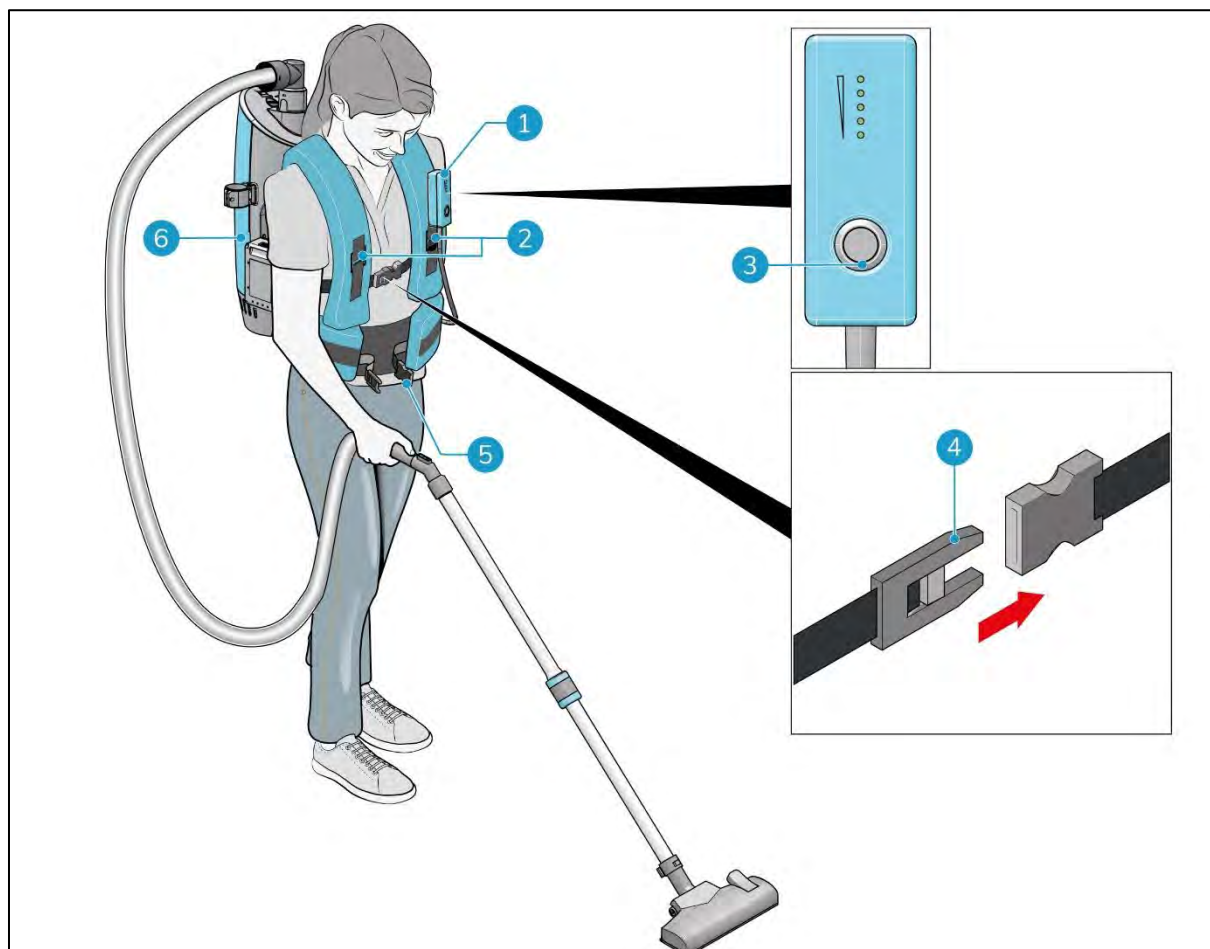

Figure 15
5. Place the i-move 2.5B® on your back (Figure 15, pos 6).
6. Close the waistband, adjust it until it fits comfortably (Figure 15, pos 5).
7. Tighten the 2 buckles until they fit comfortably (Figure 15, pos 2).
8. Fasten the buckle at the front (Figure 15, pos 4).
9. Clip the remote control on the waistband or on one of the buckle loops (Figure 15, pos 1).
10. Press the ON/OFF button (Figure 15, pos 3) to turn on the i-move 2.5B.
1. Press the ON/OFF switch (Figure 15, pos 3) to turn off the i-move 2.5B®.
2. Undo the buckle at the front (Figure 15, pos 4).
3. Undo the two buckles (Figure 15, pos 2).
4. Open the waistband (Figure 15, pos 5).
5. Remove the remote control from the waistband or on one of the buckle loops (Figure 15, pos 1).